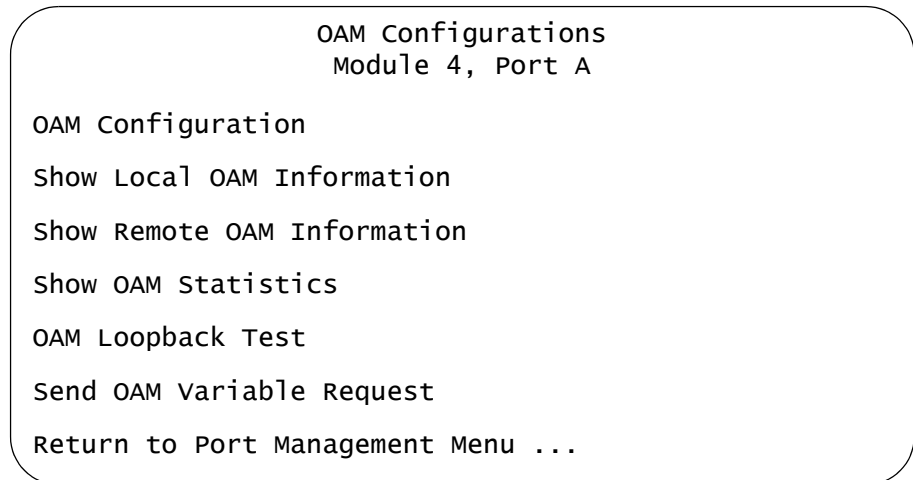

Figure 105. OAM Configurations Menu
4. From the Port Management Menu, select **OAM Configurations** to display the OAM Configurations menu in Figure 105.
4. From the Port Management Menu, select **OAM Configurations** to display the OAM Configuration Menu in Figure 105 on page 254.